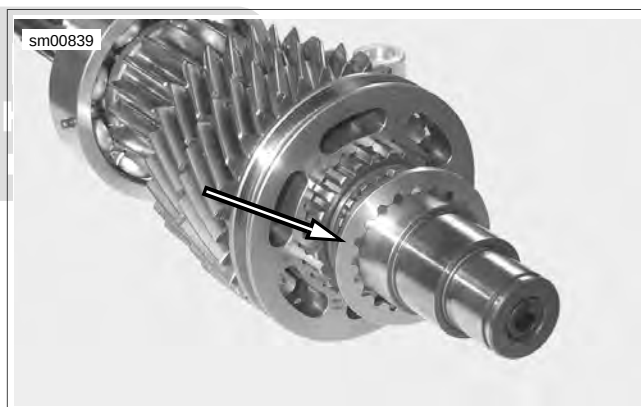

Figure 6-138. Splined Thrust Washer
4. See Figure 6-138. Remove the splined thrust washer.